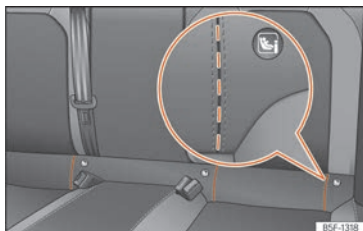

Fig. 32 Rear seat: die cut slots to access the ISOFIX / i-Size securing rings.
cles, the rings are secured to the seat frame and, in others, they are secured to the rear floor. The “ISOFIX” rings are located between the rear seat backrest and the seat cushioning »» Fig. 32, »» Fig. 33. The Top Tether rings are located on the rear part of the rear seat
- Open the cut-out section behind the marked grooves to access the retaining rings » **Fig. 32.**